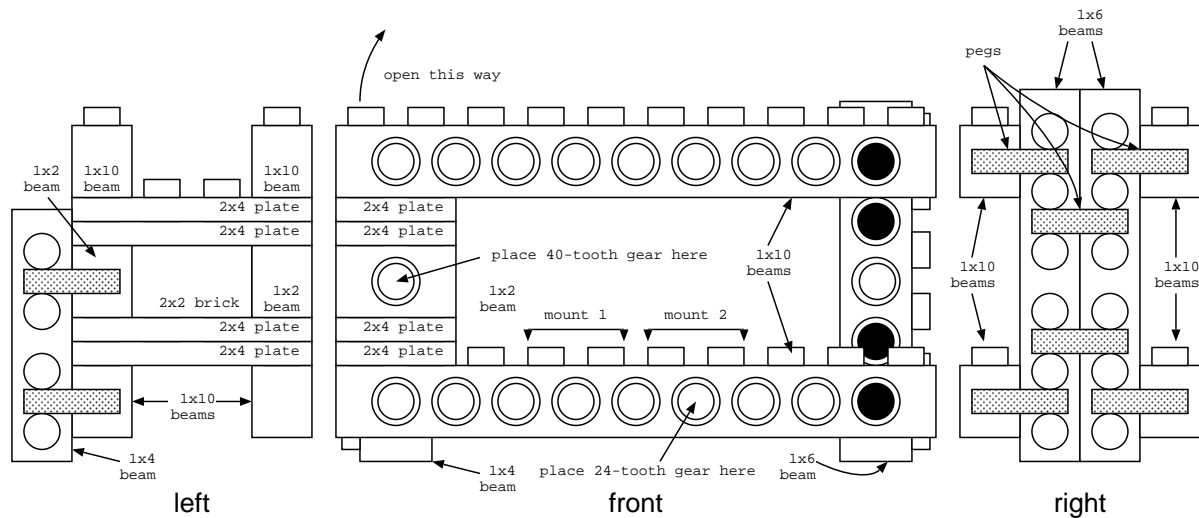

Figure 3.7: Jig for motor assembly
- (a) Construct the jig shown in Figure 3.7. It requires 4 1×10 beams, 2 1×6 beams, 1 1×4 beam, 2 1×2 beams, 1 2×2 brick, 4 2×4 plates, 10 black connectors, 2 axle connectors, 1 40-tooth gear, and 1 24-tooth gear. If you are left-handed, you might find it more useful to construct the mirror image of the jig.